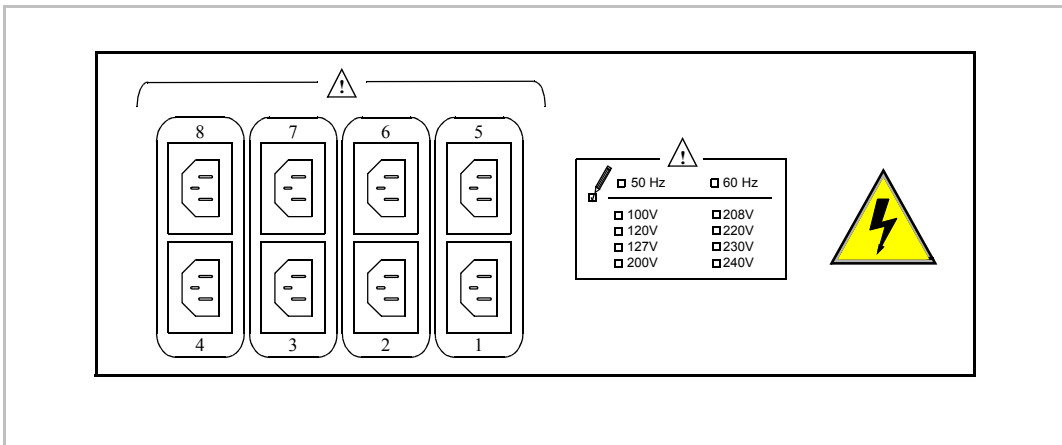

Figure 11 PDU Rear Panel
18. **Connect Power from PDU** —Connect the power cords to the PDU as described by the information in Figure 11 below.